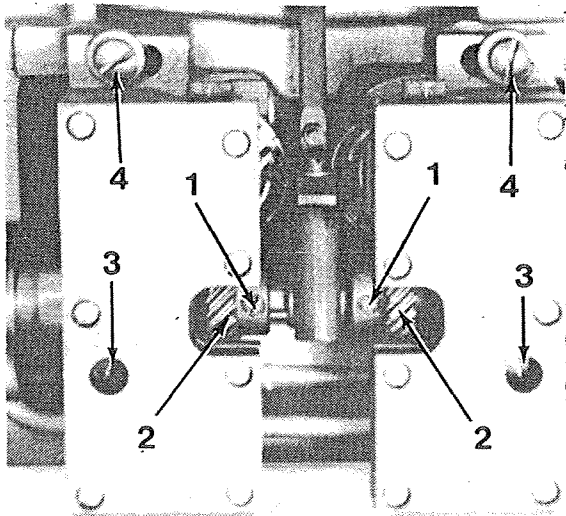
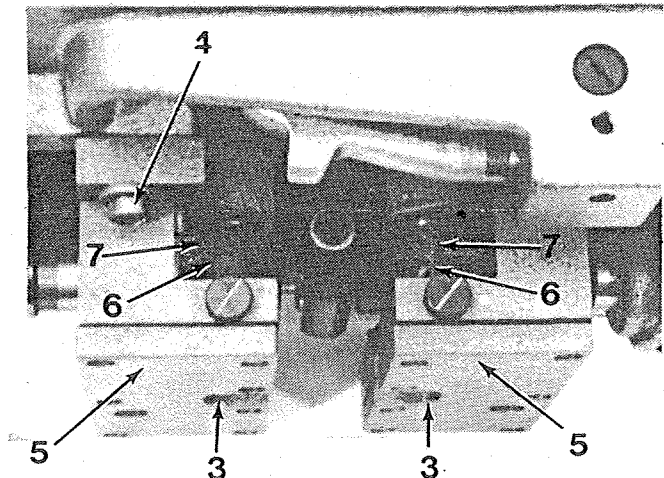

FIG. 30
FIG. 31
TIMING ADJUSTMENTS (Fig. 30, 31)
Loosen the two set screws (1, Fig. 30), set the position of the large gear (2, Fig. 30) to the center of the small gear (7, Fig. 31) and tighten the two set screws securely.
Loosen the screw (6, Fig 31) on the small gear, move the hook and set the proper timing. Then tighten the screws securely.
Loosen the two set screws (1) Fig. 30, move the large drive gear (2) to right or left and set the proper timing. Then tighten the screws securely.
ADJUSTING THE CLEARANCE (Fig. 30, 31)